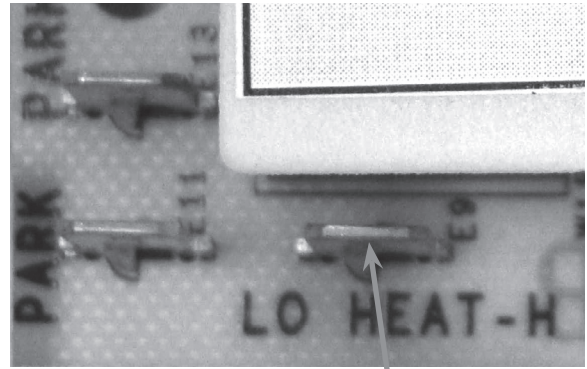

Figure 1
- Installer must read Page (6) “Operation” and follow switch setting for proper control operation.
- **IMPORTANT:** For continuous fan speed operation, one of the unused parked motor taps must be connected to the low heat speed terminal. Failure to do this will result in the blower not energizing in the constant fan mode operation. Refer to figure 1.